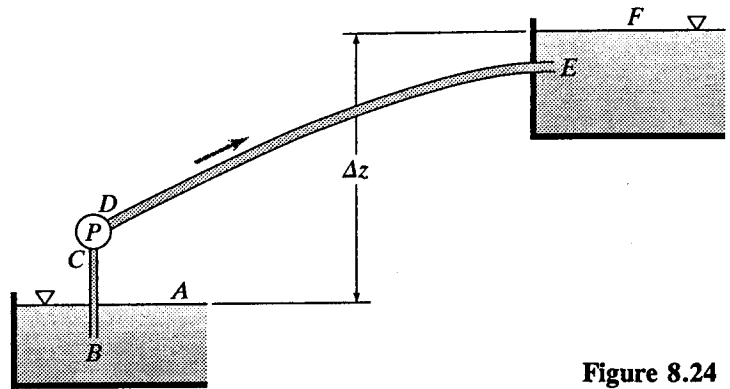

Figure 8.24
- 8.72 In Fig. 8.24 assume that the pipe diameter is 4 in,  $f = 0.035$ ,  $BC = 15$  ft,  $DE = 180$  ft, and  $\Delta z = 60$  ft. The elevation of C is 10 ft above the lower water surface. (a) If the pressure head at C is to be no less than  $-20$  ft, what is the maximum rate at which the water can be pumped? (b) If the efficiency of the pump is 65 percent, what is the horsepower required?